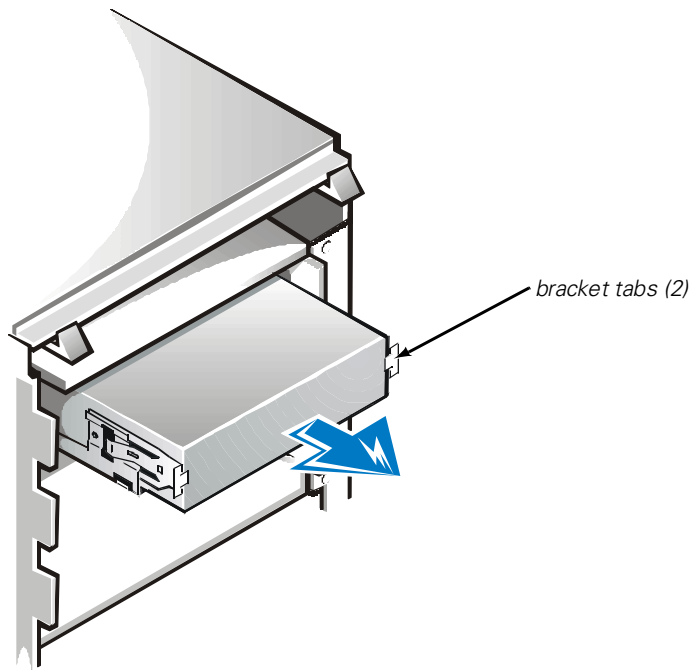

Figure 9-4. Removing a Drive
4. Remove the drive bracket from the bay you want to use. Squeeze the metal tabs that extend from each side of the drive bracket toward each other, and pull the bracket out of the bay (see Figure 9-4).